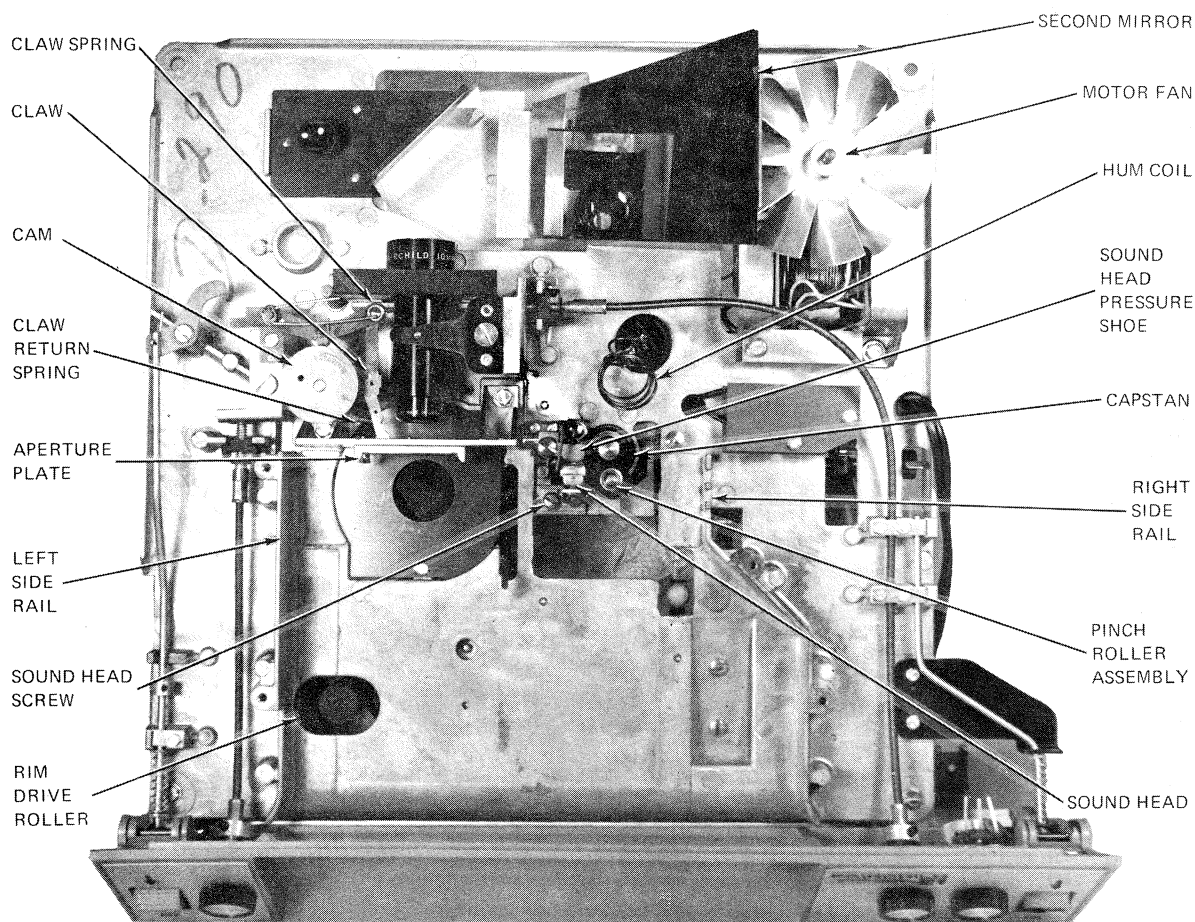

Figure 4-4. Operating Unit Assembly (Shown with roof plate removed)
- B. Replace this fuse if it is blown as a result of current overloads. For access to the fuse disassemble the projector to the stage shown in figure 4-4 by the procedure outlined in section IVB.
To perform service inspection and maintenance the projector should be disassembled to its "operating unit" stage as shown in the figure 4-4 by means of the procedure of section 4.10. In this stage of disassembly the projector may be operated and tested normally with access to all adjustments and test points.
To prevent damage to mechanism install "dummy" legs on rear of casting (positions 10 and 11). Operating unit is now as shown in figure 4-4 with roof plate in place. Full operation and testing may be performed on this assembly.